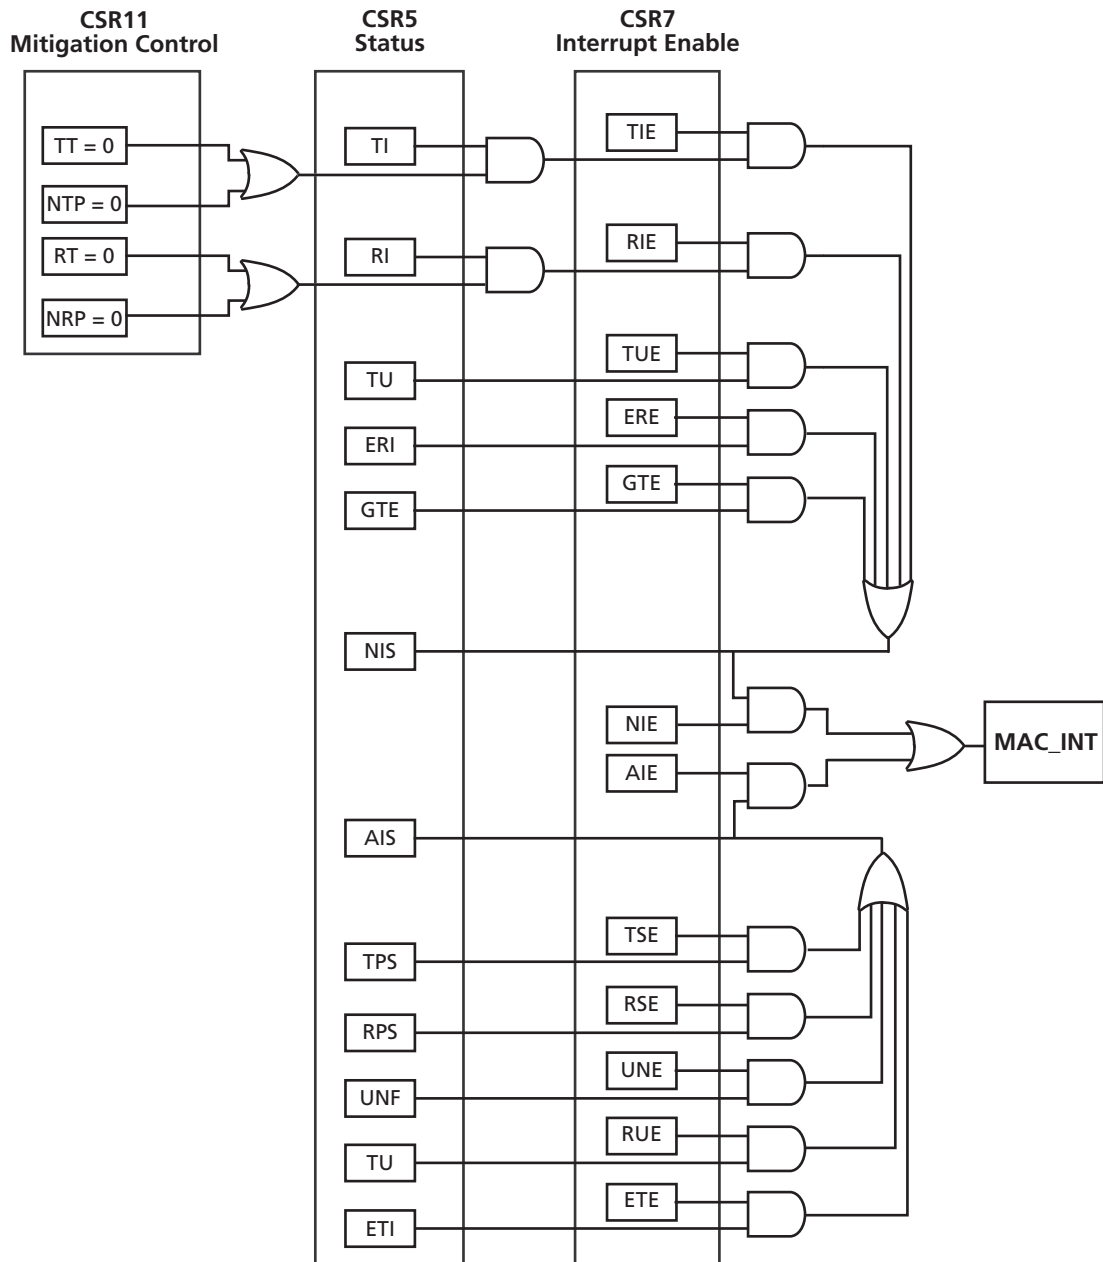

Figure 12-8 • Interrupt Scheme
It is possible to omit transmit interrupt mitigation for one particular frame by setting the Interrupt on Completion (IC) bit in the last descriptor of the frame. If the IC bit is set, Ethernet MAC sets the transmit interrupt immediately after the frame has been transmitted. The interrupt scheme is shown in Figure 12-8.